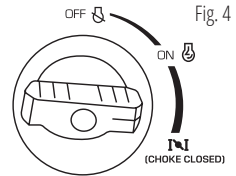

Fig. 4
3. Set the multifunctional engine switch to the "OFF" position (Fig. 4).